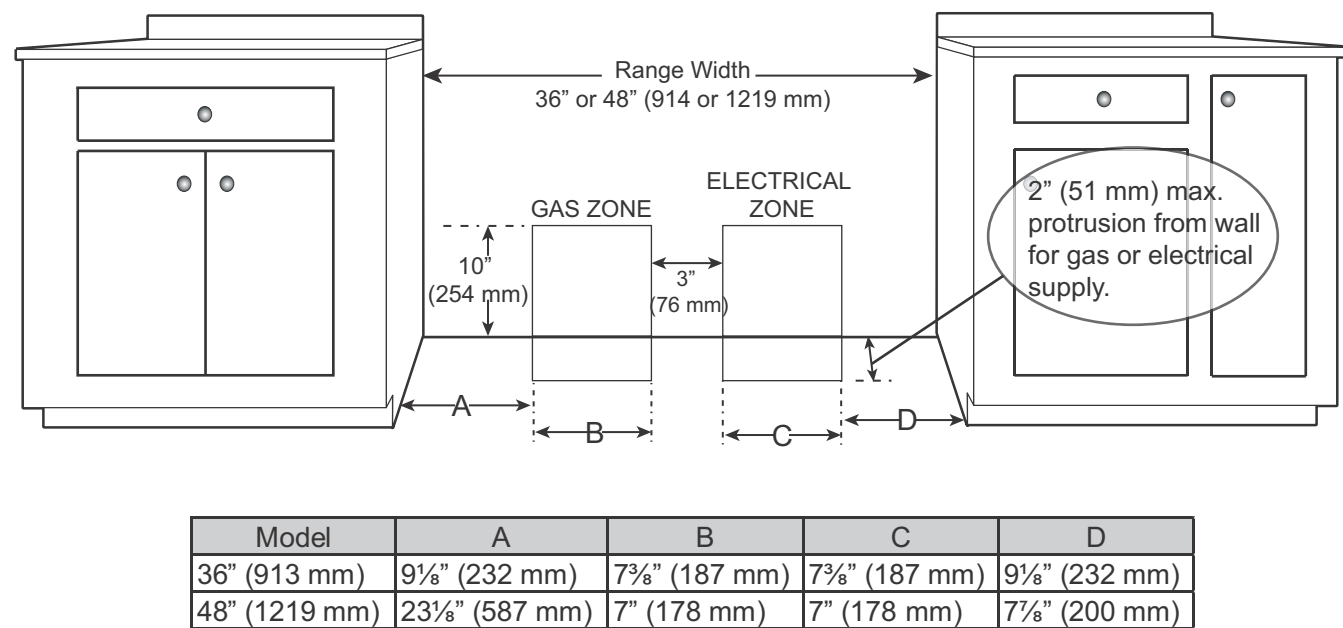

Figure 4: Gas & Electrical Supply Locations
- The gas and electrical supply should be within the zones shown in *Figure 4 on page 8*.